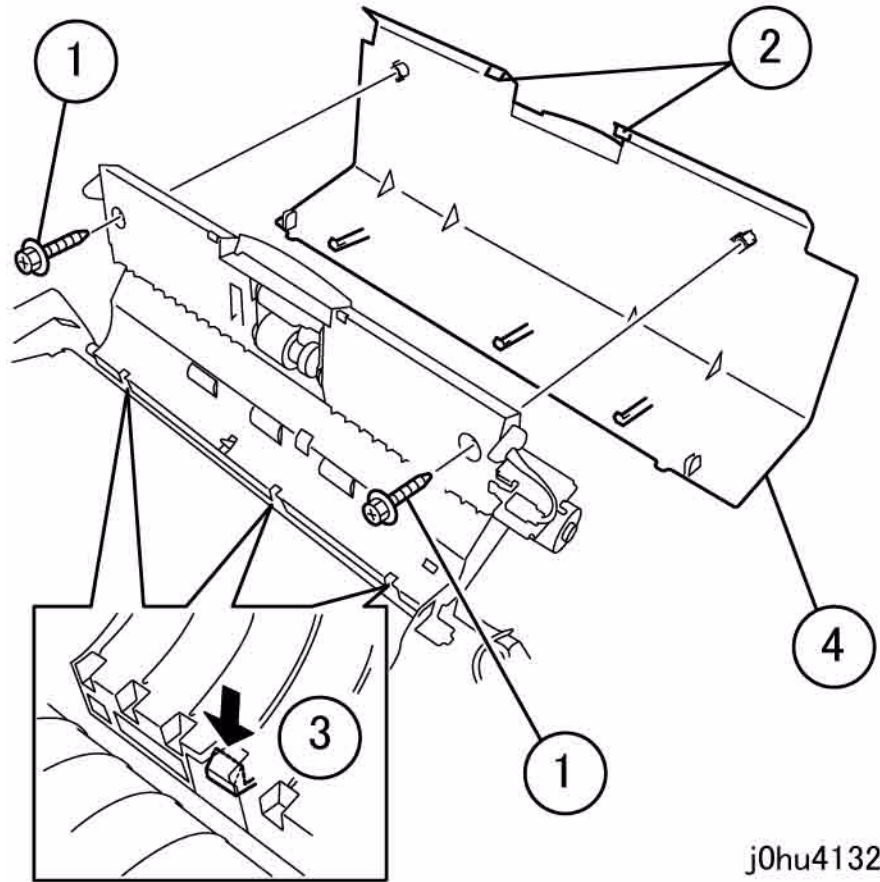

Figure 1 Remove the Top Cover
2. Remove the Top Cover (Figure 1).